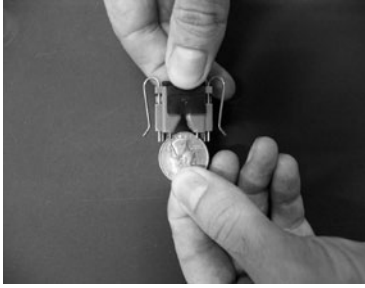

Fig 7
8. Using a screwdriver or other metallic object, make a connection between the two pins on the Micro Sensor (fig 7). Unit should shut down after short delay.